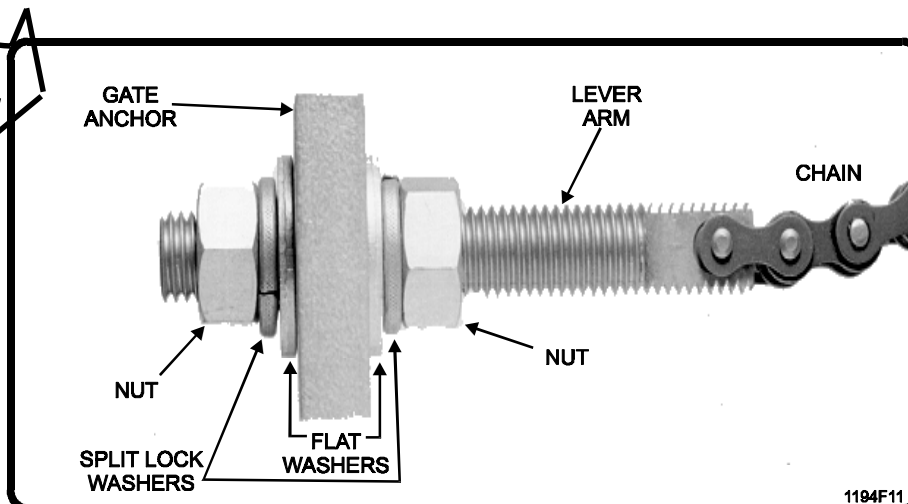

Figure 10. Anchor.
7. Install the chain to the gate using supplied hardware. Adjust nuts for proper chain tension to prevent the chains from loosening and twisting (Figure 10).